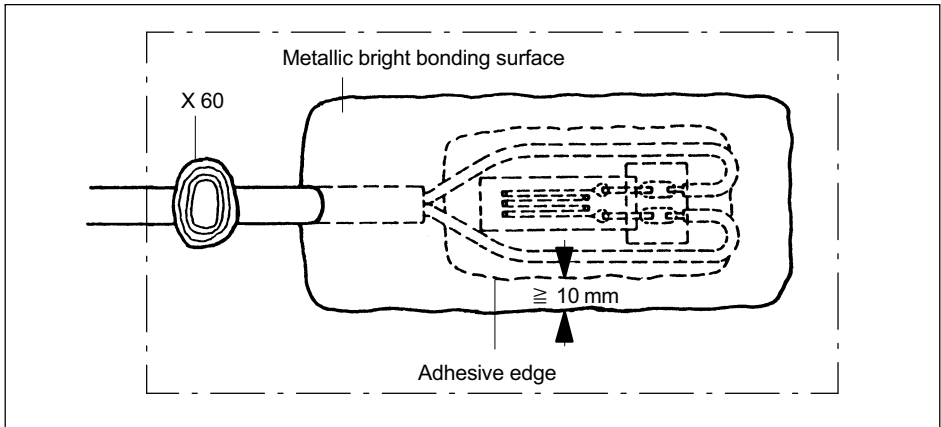

Fig. 4.1 SG measuring point covered with NG150
- ▶ The connection cable and the cable sheath in the area of the measuring point must also be degreased. Fluoropolymer connecting cables must be etched and degreased so that the covering compound bonds better. Prepare the cabling of the measuring point as shown in *Fig. 4.1 on Page 6*.